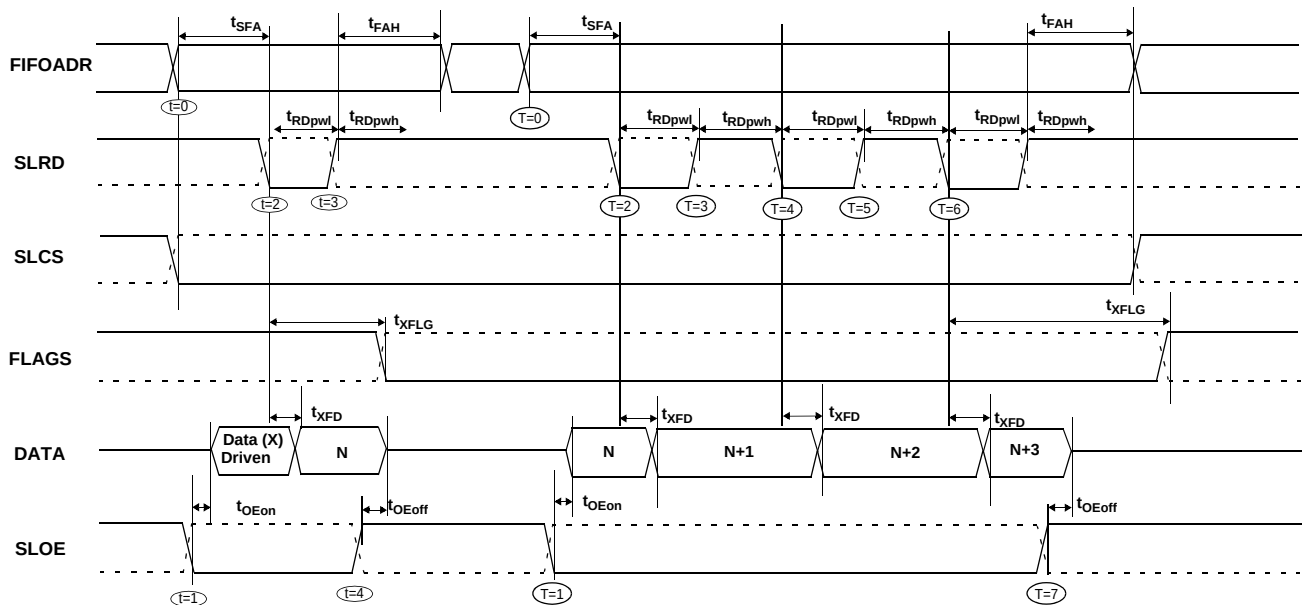

Figure 10-21. Slave FIFO Asynchronous Read Sequence and Timing Diagram^[20]
Figure 10-21 diagrams the timing relationship of the SLAVE FIFO signals during an asynchronous FIFO read. It shows a single read followed by a burst read.
- The data that will be driven, after asserting SLRD, is the updated data from the FIFO. This data is valid after a propagation delay of t_{xFLG} from the activating edge of SLRD. In Figure 10-21, data N is the first valid data read from the FIFO. For data to appear on the data bus during the read cycle (i.e., SLRD is asserted), SLOE MUST be in an asserted state. SLRD and SLOE can also be tied together.